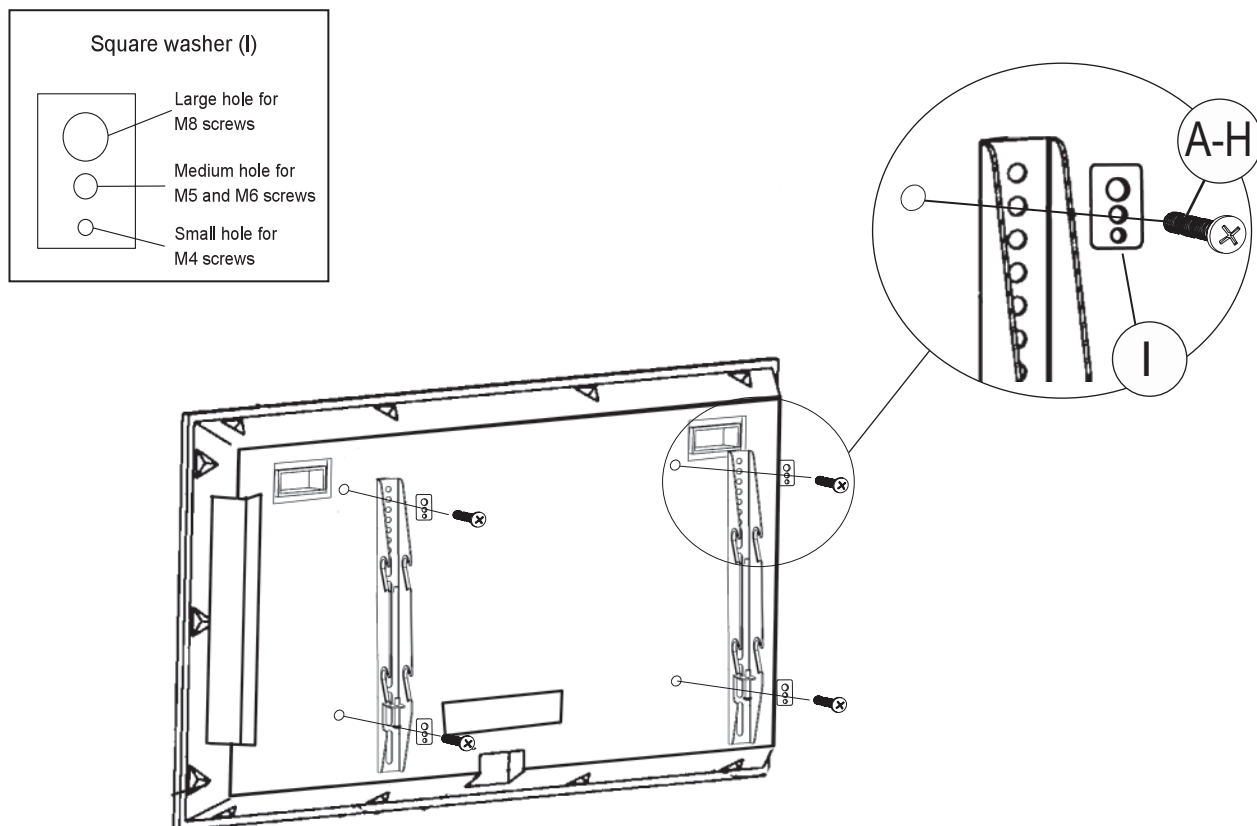

Fig.1a
If your television has a straight back, spacers are not required. Use the selected bolts (A-H) applicable to your TV and the square washers (I) to install the bracket directly on the back of the television as shown in Fig 1a. Make sure that the two brackets are equal in height and are level. Once the brackets are aligned, securely tighten the bolts. If necessary, use additional washers (N, O) to make sure the bolts (A-H) keep the bracket snug to the rear of the TV without over tightening.